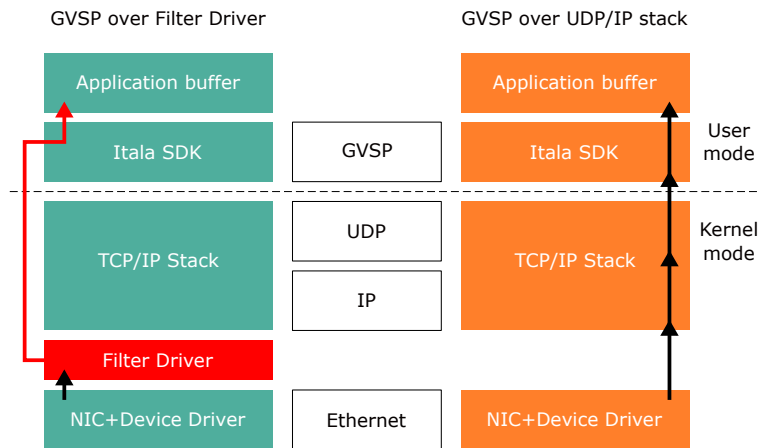

Figure 4: GigE Vision Streaming (GVSP) with and without the Filter Driver
To better handle the image streaming high throughput, it's recommended to use the **Itala filter driver**. The filter driver intercepts *GigE Vision* streaming protocol packets, reassembles the whole payload and sends it directly to the application image buffer. This allows to skip the standard network protocol stack that would increase latency and CPU usage on the host machine (Fig.4). The result is a low level packet handling offload which optimizes the host system resources consumption.
4. At the end of the installation, the filter driver will appear in the NIC property window (Fig.4).